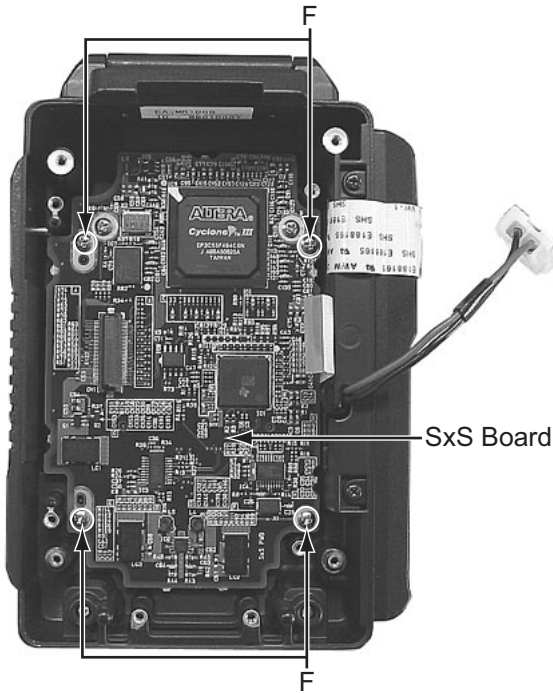

Fig.6
3.1.2 Removing the 68PIN board, CODEC board, SxS board (See figure 3, figure 4, figure 5, figure 6)